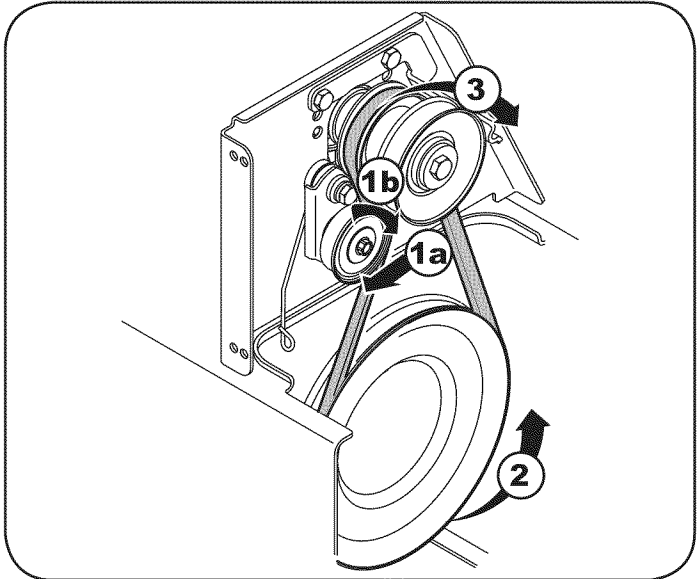

Figure 36
1. a. Pull the idler pulley away from the backside of the drive belt to relieve the tension. See Figure 36.